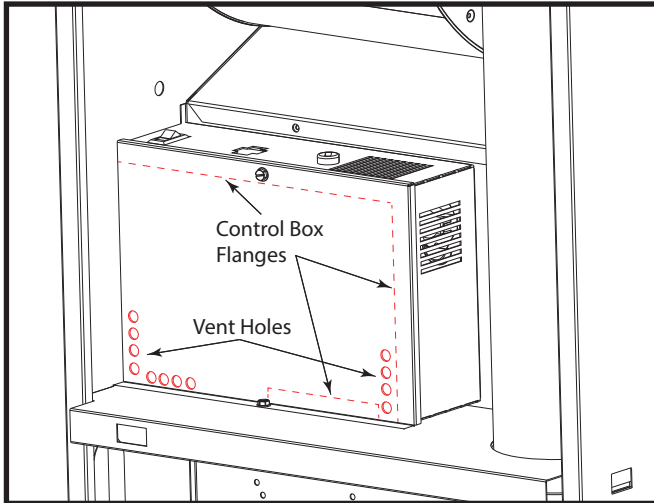

Figure 3. Vent Plate for Control Cover
### Create Ventilation Holes in Control Cover (see Figure 3)
1. Drill a minimum of eight 1/4" diameter vent holes in the control box cover (see suggestions for potential locations in Figure 3).